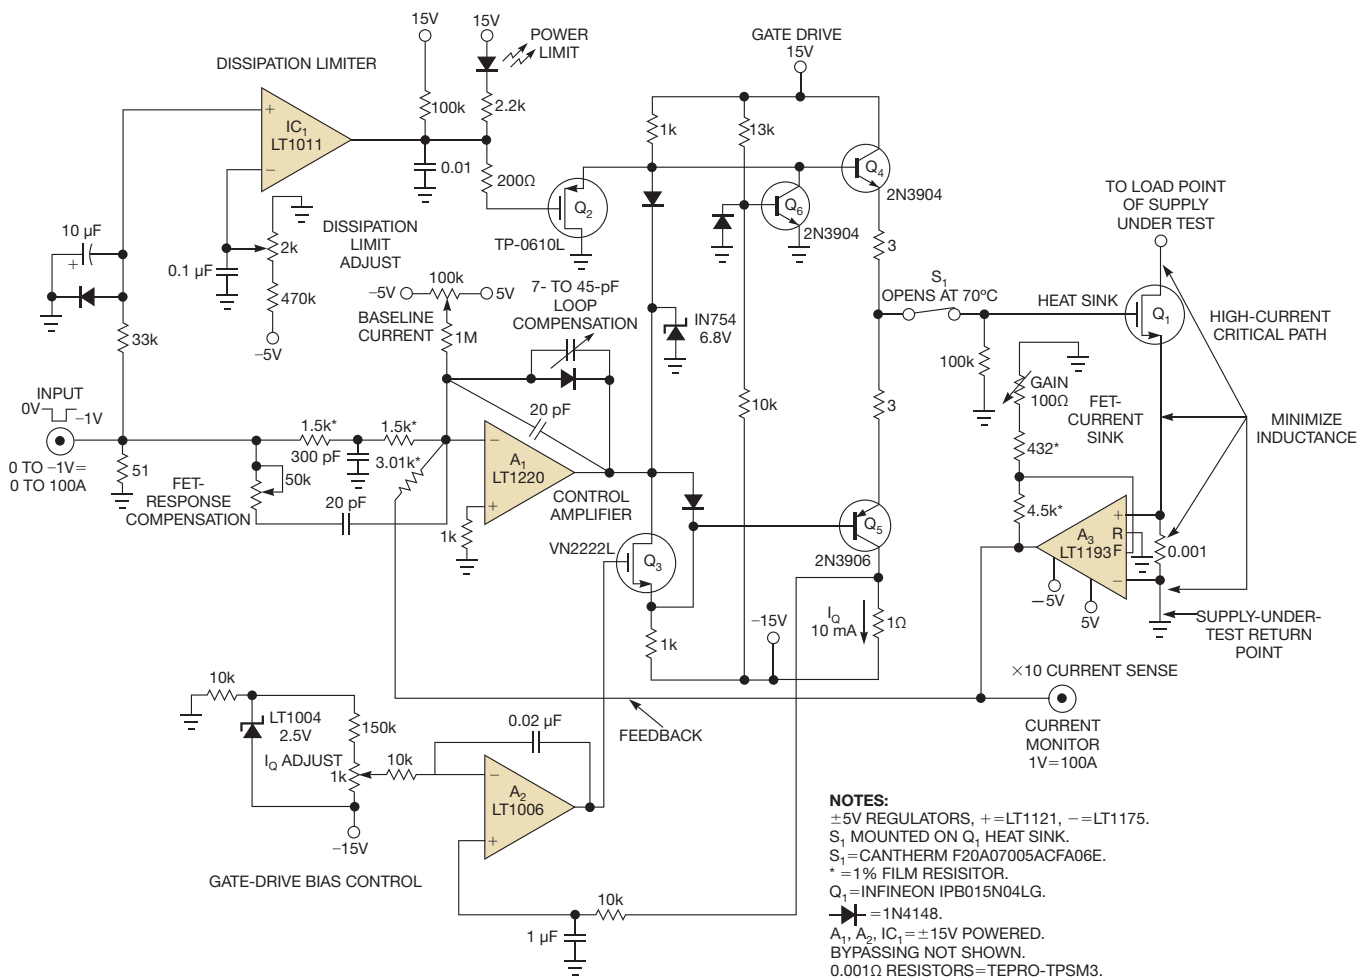

Figure 5 You can derive a detailed active-load schematic from the conceptual design.
You can develop a detailed schematic based on these concepts (**Figure 5**). The main amplifier, A_1 , responds to dc and pulse inputs. You also send it a feedback signal from A_3 that represents load current. A_1 sets Q_1 's conductivity through the Q_4/Q_5 gate-drive stage, which is actively biased using A_7 . The voltage drop across the gate drive's input diodes would be high enough to fully turn on Q_4 and Q_5 . To prevent this overdrive, reduce the voltage across the lower diode with Q_3 . Amplifier A_2 determines the gate-drive-stage bias by comparing Q_5 's averaged collector current with a reference and controlling Q_3 's conduction, thus closing a loop. That loop keeps the voltage drop
- 2 "Overload Adjust," *HP-214A Pulse Generator Operating and Service Manual*, Hewlett-Packard, figures 5 through 13.